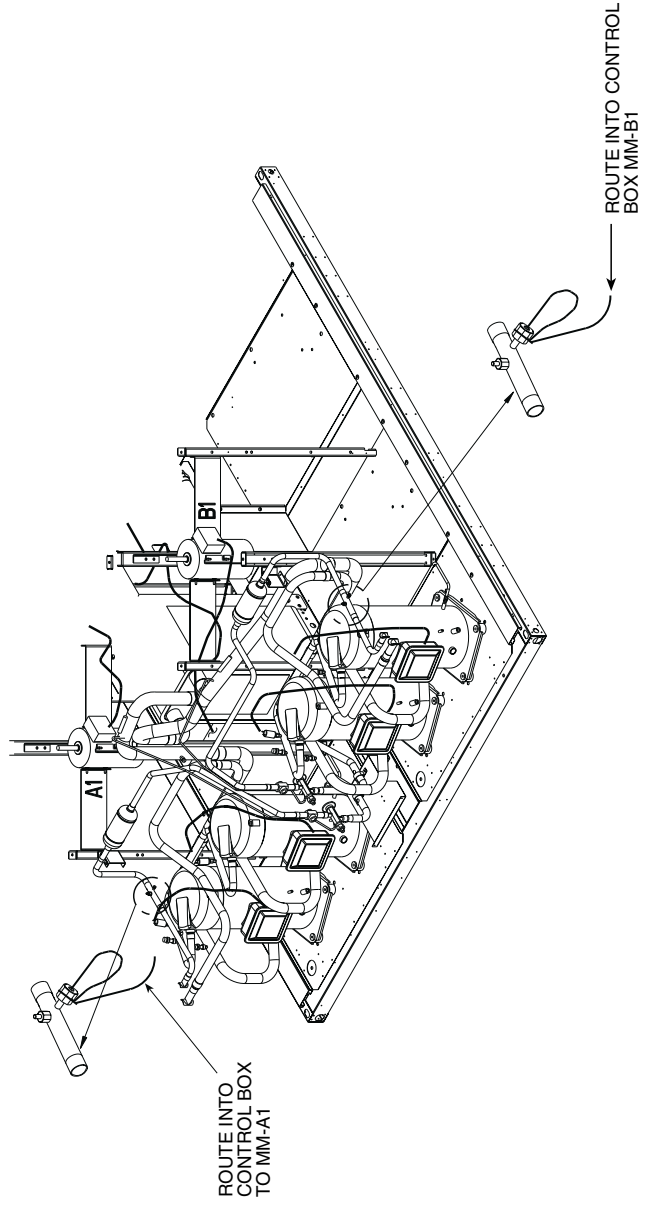

Fig. 9 — Pressure Transducer Location (30RA032-055)
- Install (3) 12 ga wires from TB1A to the top of fuse block FU7.
- Install the pressure transducer on the 1/4-in. flare fitting on the Circuit A liquid line. See Fig. 9. For future service, it is recommended that a tee be installed on the liquid line Schrader valve before installing the transducer.
- Install (3) 12 ga wires from TB1A to the top of fuse block FU8.
- Install the pressure transducer on the 1/4-in. flare fitting on the Circuit B liquid line. See Fig. 9. For future service, it is recommended that a tee be installed on the liquid line Schrader valve before installing the transducer.